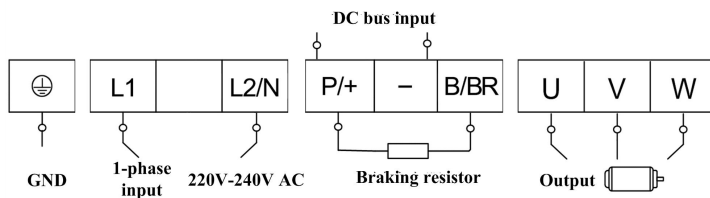

Fig 3-2 Power terminals sketch
1) Power terminals sketch of inverter with 1-phase 230V 0.4-2.2KW showed as below in Fig 3-2.